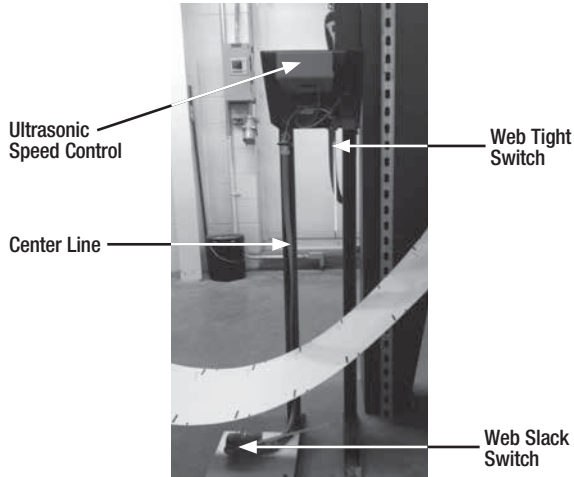

Figure 4
7. Ultrasonic Speed Control (See Figure 4)